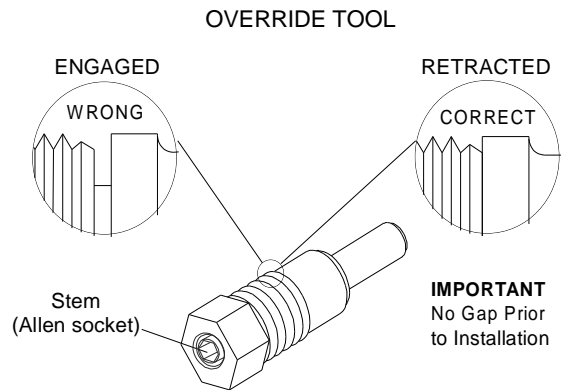

Figure 1
Ensure that the stem in the override tool is fully retracted prior to the installation of the override tool in the solenoid tank valve (see figure 1). Installation of the override tool in the venting (engaged) position would immediately cause an uncontrolled release of natural gas and may result in damage and/or injuries.
9. **WARNING: Before removing the manual lock down, ensure that all fuel lines connected to the tank valve have been fully depressurized. Before installing the manual override tool, ensure that the stem on the manual override tool is fully retracted (see figure 1).**
10. Slowly turn the stem on the manual override tool clockwise (using a 3/16" Allen wrench) until the stem stops (approximately 1 turn). This will indicate the override tool is fully engaged (see figure 1).
13. After the tank is fully vented, turn the stem on the manual override tool counter-clockwise (using a 3/16" Allen wrench) until the tool is fully retracted (see figure 1).